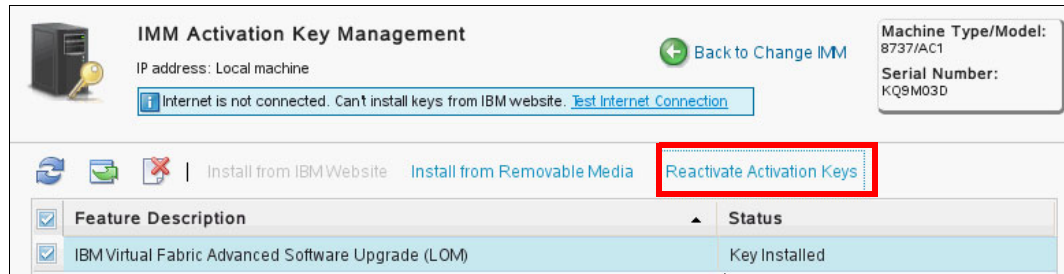

Figure 5-20 Reactivate Activation Keys
1. Select **Reactivate Activation Keys** menu, as shown in Figure 5-20.